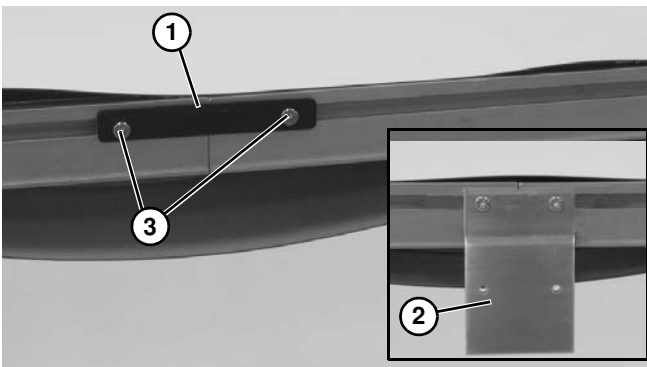

Figure 11
4. Join conveyor sections and install frame connector plates (**Figure 11, item 1**) or connector/mount brackets (**Figure 11, item 2**) and screws (**Figure 11, item 3**) on both sides as indicated. Tighten screws to 60 in-lb (7 Nm).
2. Join conveyor sections and install frame connector plates (**Figure 11, item 1**) or connector/mount brackets (**Figure 11, item 2**) and screws (**Figure 11, item 3**) on both sides as indicated. Tighten screws to 60 in-lb (7 Nm).